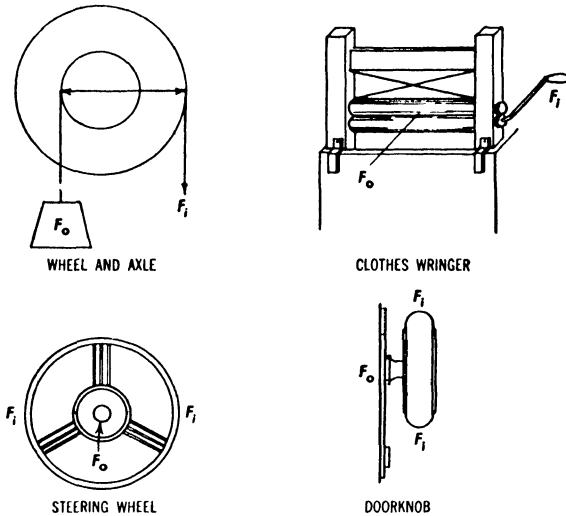

Fig. 4.5. Wheel and axle machines.
20. The Wheel and Axle. The usual wheel-and-axle machine consists of two wheels on the same axis, or often one wheel is replaced by a crank which is really one of the spokes of the wheel with a handle at the end. Figure 4.5 shows several wheel-and-axle machines. When the wheel or the crank makes one